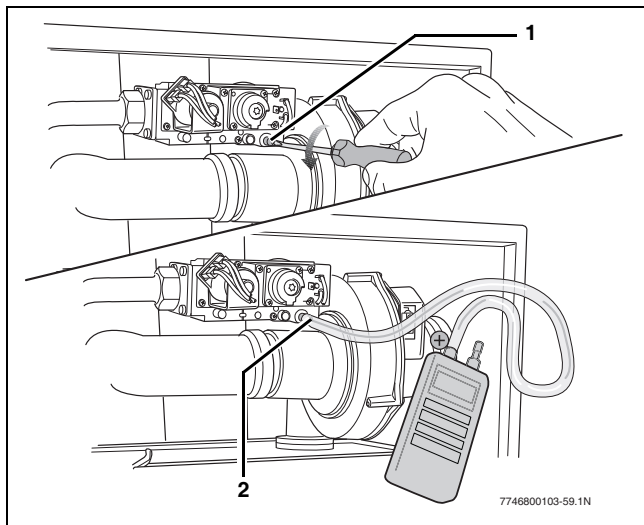

Fig. 66 Checking the gas/air ratio at minimum load
- ▶ Open the screw plug on the testing nipple for the burner pressure by 2 turns (→ fig. 66, [1]).
- ▶ Use a connection tube to connect the positive port of the pressure gauge to the testing nipple for burner pressure (→ fig. 66, [2]).